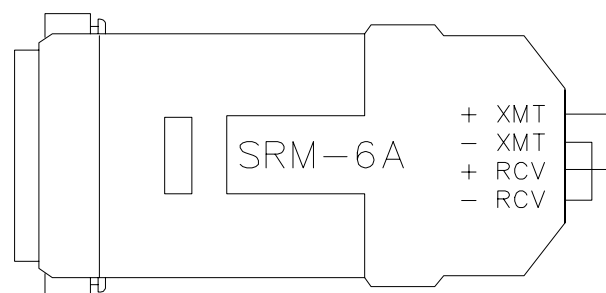

FIGURE 3.1-1 Rad Testing Computer End
1. Disconnect the four conductor cables from the SRM-6A RAD modem at the computer end. Inside the SRM-6A, jumper the XMT + to RCV + and jumper the XMT - to RCV -. This creates a transmit loop which allows any key pressed at the computer keyboard to be seen on the screen. If the key pressed is not seen, check the following: The COM port configuration, the 25 pin cable from the computer to the modem, and the SRM-6A RAD modem Cable Test (Figure 3.1-1).